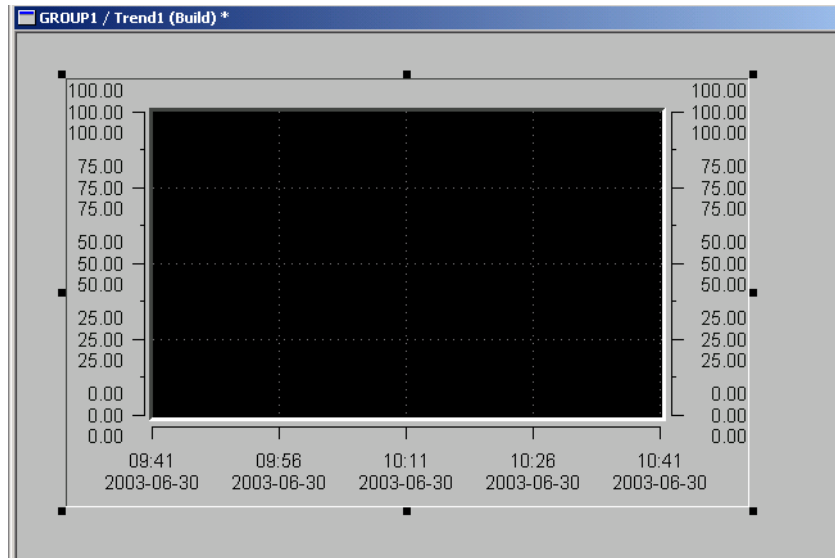

Figure 28. Trend Display Element
- b. Place this display element near the upper left corner of the display. The Trend display element is shown in Figure 28.